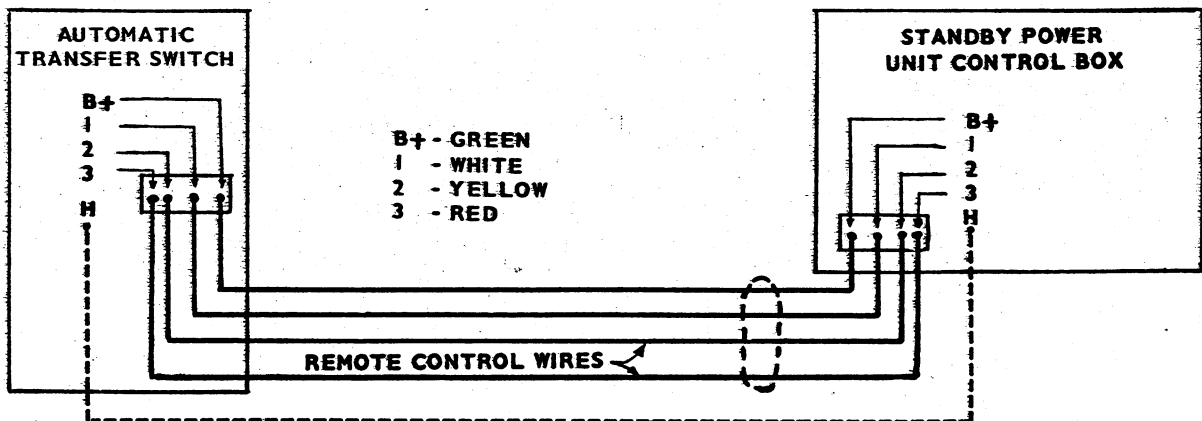

FIGURE 9. CONTROL WIRE CONNECTIONS FOR GENERATING SET
**Control Wiring:** Four control wires connect the automatic transfer switch and electric generating set B+, 1, 2, 3. For runs up to 100 feet (30 m), use number 14 wire; for longer runs, use larger wire as specified in the electric generating set's operator's manual. If possible, code the wires using the color code (Figure 9) for uniformity. On diesels, a 5th wire labeled H is needed for preheat circuit.